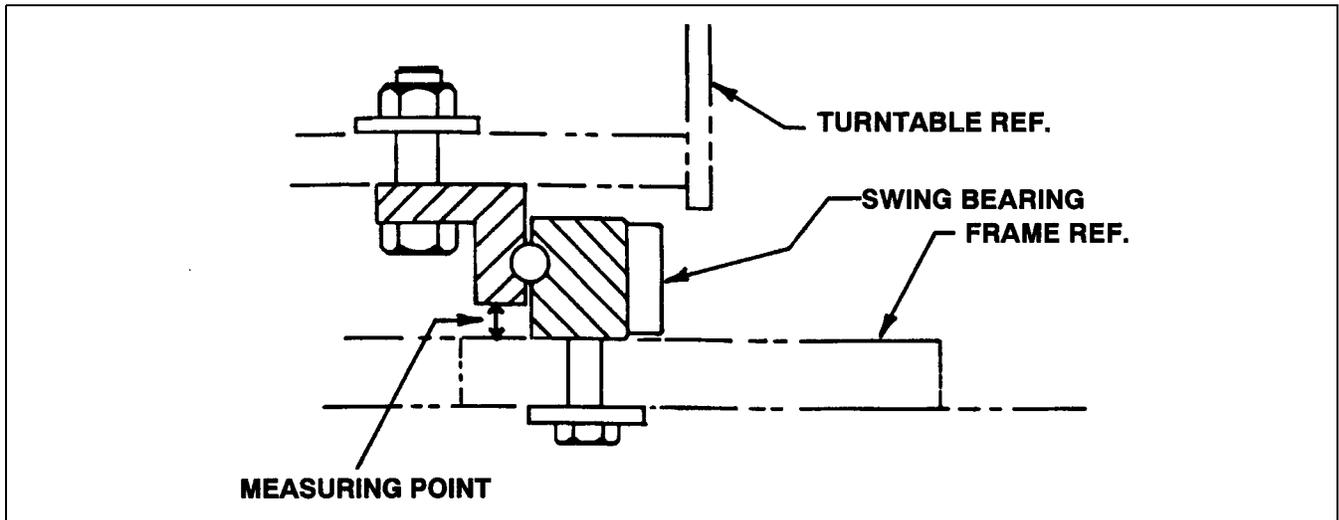

Figure 2-34. Swing Bearing Tolerance Measuring Point.
1. From the underside of the machine, at rear center, with the boom fully elevated and fully retracted (See Figure 2-32a.), using a magnetic base dial indicator, measure and record the distance between the swing bearing and frame. (See figure 2-34.)
2. At the same point, with the boom at horizontal and fully extended (See Figure 2-32b.), using a magnetic base dial indicator, measure and record the distance between the swing bearing and frame. (See Figure 2-34.)